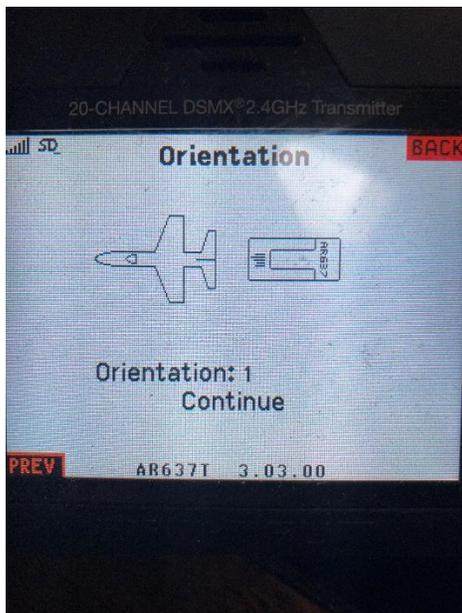

Figure 27.0 Results of performing the receiver orientation calibration.
5. Navigate back to the **Main Menu** and click on **Gyro Settings** followed by **System Setup**. again. The second option below **Relearn Servo** Settings is **Orientation**, select and click it. Follow the prompts that will take you through the gyro calibration process. It's straightforward. At the end it shows you how the receiver should be physically oriented in the model. Verify that your actual receiver orientation agrees with the depiction on the screen. Highlight **Continue** and click it. *Figure 27.0* shows a typical receiver orientation that should agree with how it's physically mounted in the model. From this point on you cannot move or reposition the receiver without re-running this calibration sequence we just completed. If you need to relocate or re-orient the receiver you must go back and perform this step again.